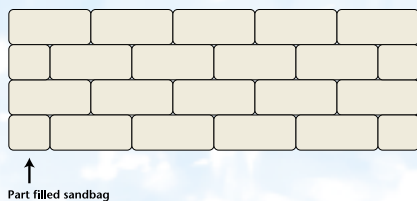

Figure 5: Alternate Header and Stretcher courses
8. For the second course, and all alternate courses, use a Stretcher course (Figure 5).